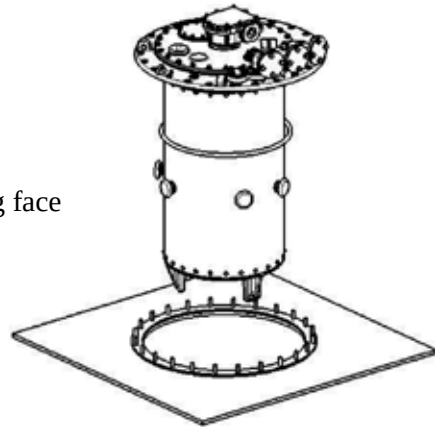

Figure 20 Mounting hole
- 2) Lift the diverter switch to be above the transformer's mounting flange. Carefully place it into the transformer tank through the mounting hole on the transformer cover (Figure 20).